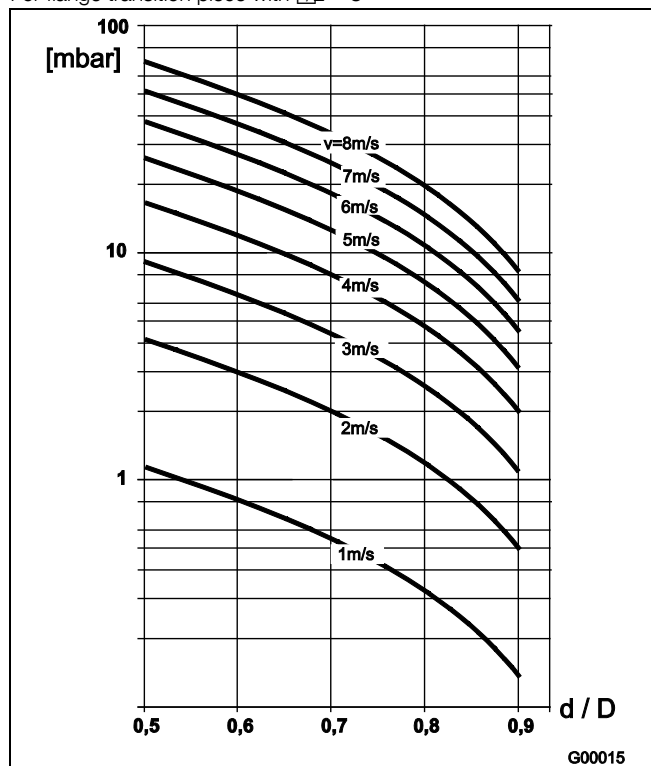

Fig. 17
2. Determine the flow velocity based on the flow range nomograph (Fig. 17).
3. Read the pressure drop on the Y-axis in Fig. 17.